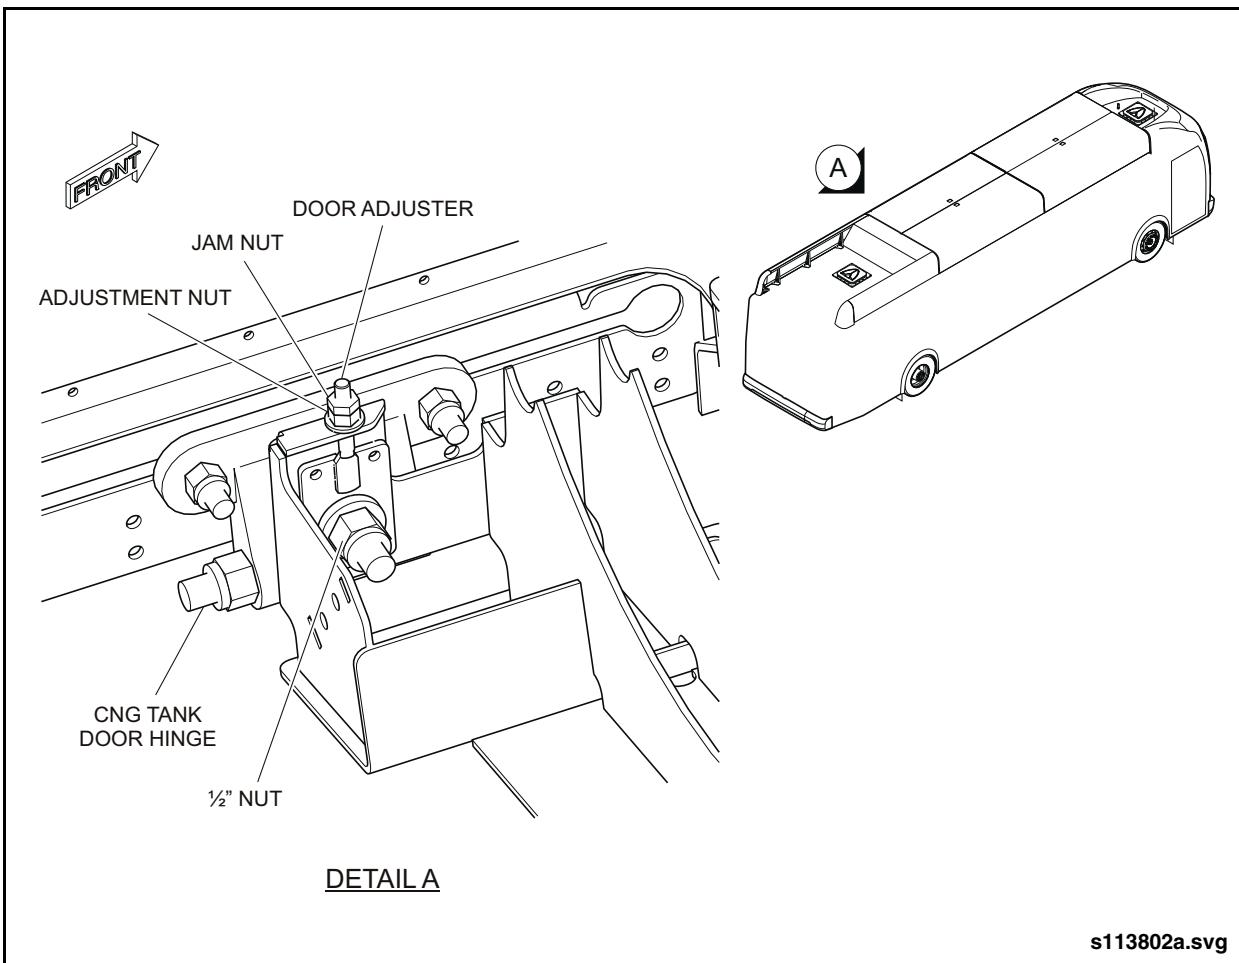

Fig. 15-7: Tank Access Door Adjuster
1. Loosen the large 1/2" nut (two per door) on door hinge so door can move freely. See "Fig. 15-7: Tank Access Door Adjuster" on page 13.